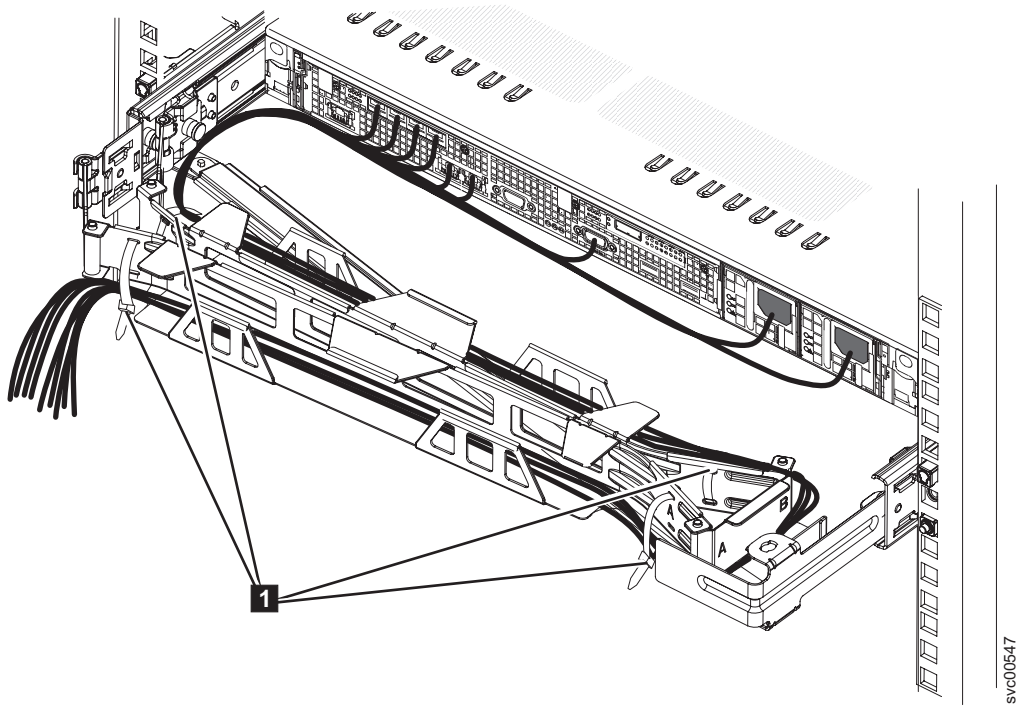

Figure 21. SAN Volume Controller 2145-CF8 cables in the cable-management arm
- a. Route the cables and power cords on the cable-management arm, as shown by **1** in Figure 21 on page 29.